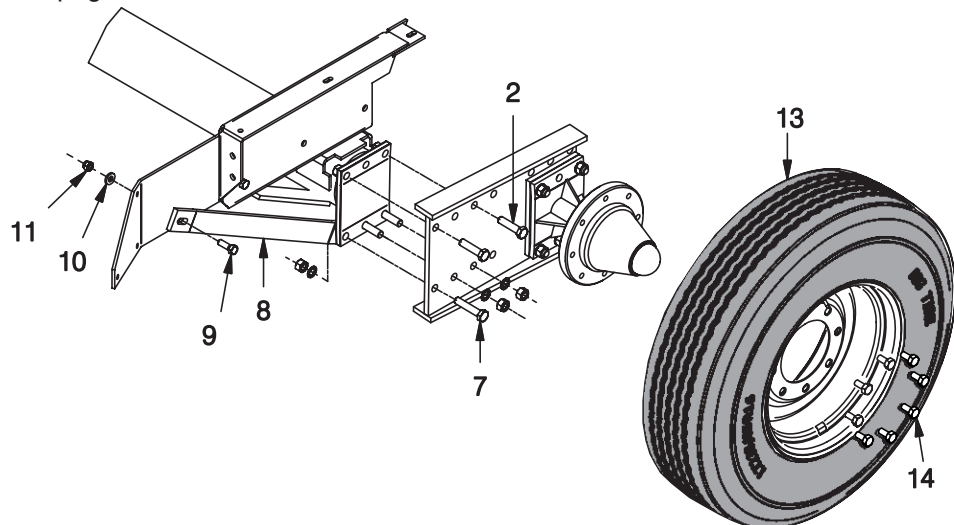

Figure 3 - Mounting Wheel Extension and Tire
C. Place (2) Y18C-1032 Bolts through MNT0030914 Wheel Extension as shown in Figure 3. Place the Wheel Extension on to the axle as shown in Figure 3. Place (1) R13806335 bolt through the wheel extension as shown in Figure 3. Place (1) F000007705 RH Brace. Torque all nuts (torque chart on page 1). Mount the tire with the valve stem pointing to the inside of the baler. Torque all nuts and bolts as per torque chart on page 1.